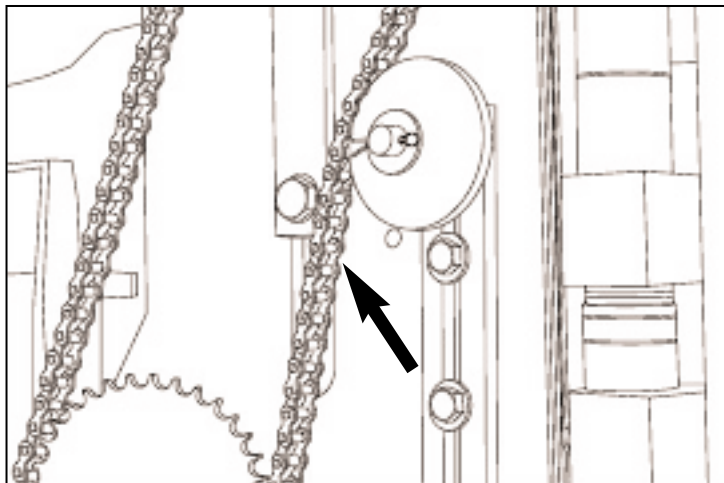

Figure 6.1 PALLET FEEDER DRIVE CHAIN.
- 6.1.6 Make sure the pallet feeder drive chain and lug chains (see figure 6.1 and 6.2) are well adjusted. To adjust those chains, follow the procedure presented on the next two pages.